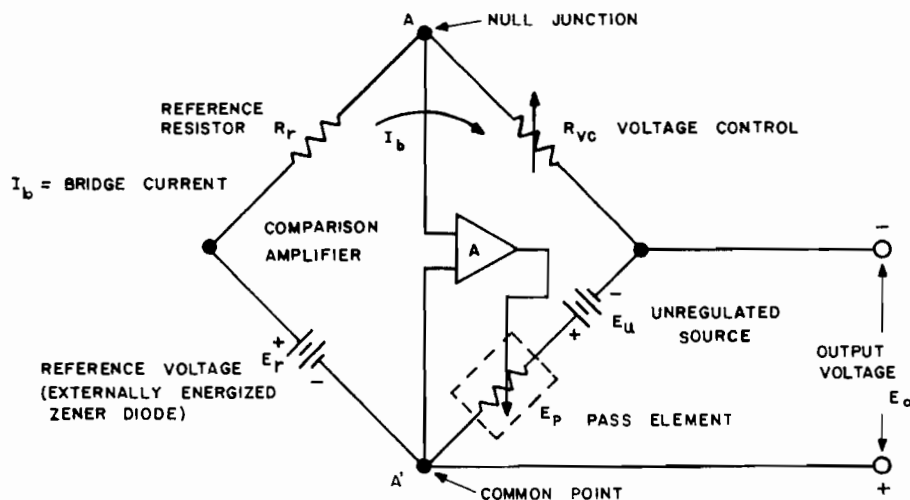

FIG. 3-4 KEPCO POWER SUPPLY AND COMPARISON BRIDGE CIRCUIT.
3-8 GENERAL. A few general remarks may be in order to familiarize the user of this equipment with the terminology and basic equations pertaining to remote programming of the Kepco PAT Power Supplies. Electrically, the power supply consists of the unregulated d-c source (E_u), the pass element (E_p), the d-c error amplifier (A), and a comparison circuit which resembles a 4-arm electrical bridge. (Refer to FIG. 3-4.) The elements of the bridge are arranged to produce a virtual zero at the amplifier input when the bridge circuit is at balance ($V_{AA'} = 0$). Any tendency for the output voltage to change in relation to the reference voltage (E_r) creates an error signal which, by means of negative feedback and the amplifier, tends to correct the output voltage towards restoration of bridge balance.